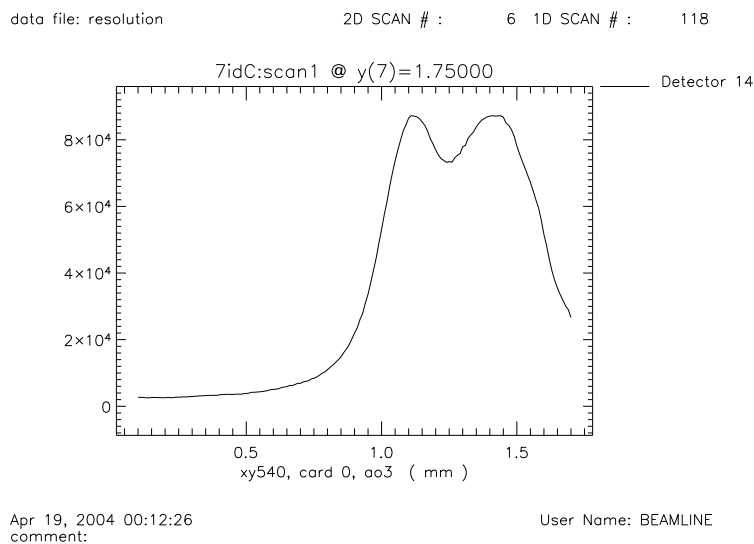

Figure 1: Saturation of a bicron in high count rate situation. The data should be corrected for non-linearities well below the dip in intensity.
- Bring in a spectroscopy amplifier, a Canberra 2022 or 2025 and connect the preamplifier connector at the back of the amplifier to the Bicron preamplifier connector (DB-9). Connect the bicron signal BNC to the input BNC of the amplifier. The settings of the amplifier are shown in table 1. It is highly advisable to T off the amplifier output to an analog oscilloscope. A bicron can be easily damaged if overdriven by more than 150 keps. Its output is non-linear above 50 keps as shown in Figure 1.